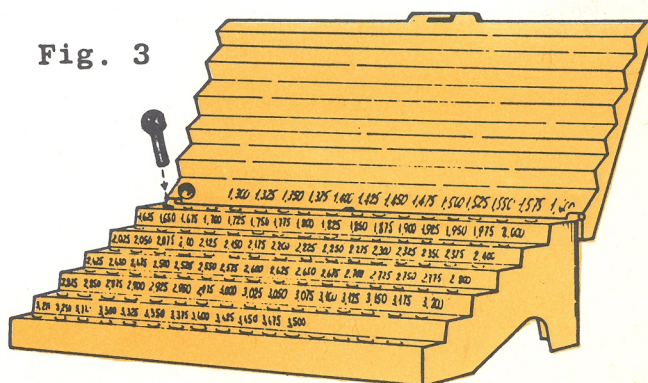

Fig. 3
- 4 To keep the adjusting pads in proper order use the box R.9.0001 shown at fig. 3.